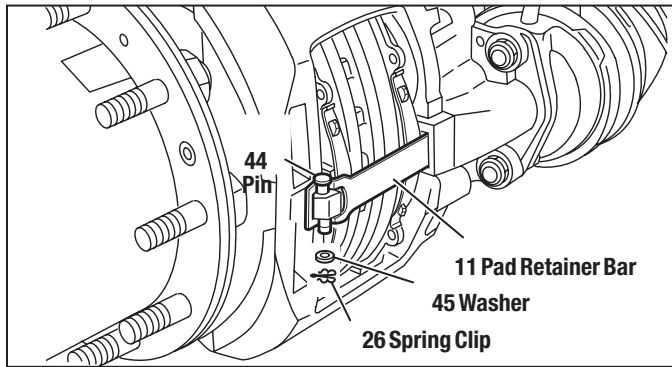

Figure 23 – Retainer Bar Removal
See Figure 23. While pressing down against the pad retaining bar (11), remove and retain the clip (26), washer (45), and pin (44). Remove the pad retainer bar (11). Bendix recommends that these items be replaced with new (See available kits and parts, Section 5.0).